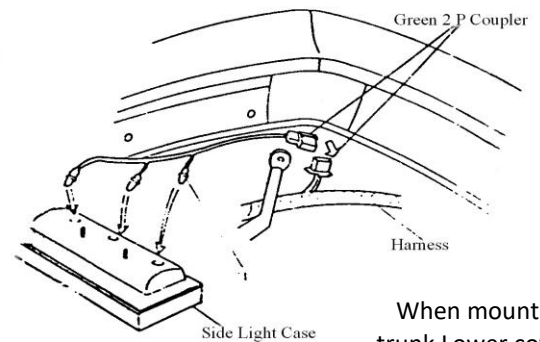

Fig 2
3. Remove the three rubber caps from the light case and plug a bulb and socket into each hole. Repeat on the other side. **Fig 2**